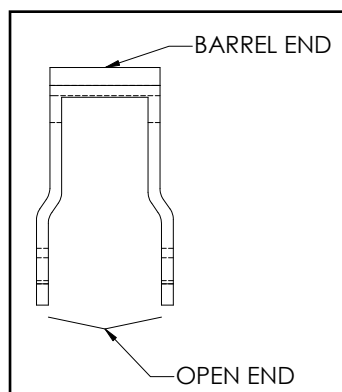

Figure 5 – Chain Link
1. Remove connecting link pins from the new chain. Lay the new chain at the front of the unit with the chain bars up/Hi-WAY stamps down and the barrel end of the connecting link pointing towards the unit (See Figure 5).
3. Slide the remaining half of conveyor on top of the bottom panel with the open end of the master link first (See Figure 5).